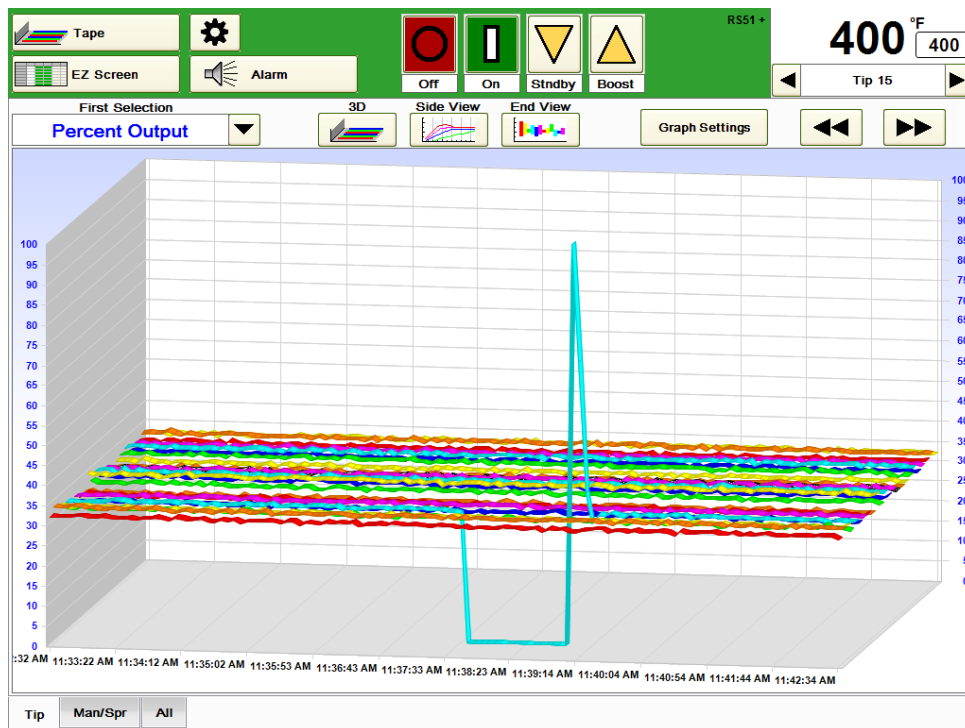

Figure 7i **Tape Graph – 3D**
Tape Graph: Each zone's data is displayed as a colored ribbon showing changes over a period of time as shown in Figures 6i, 6j and 6k. This display can be useful in showing how different zones compare over time. Only one variable is plotted at a time. The choices include Actual Temperature, Deviation (from setpoint), Percent Output, Heater Current (amperage), Heater Voltage, Heater Resistance, Temperature Setpoint and Manual % Output Setpoint. In Figure 7i, 6j and 6k, Percent Output is plotted. To select a particular zone, choose it in the upper right corner of the screen. The selected zone's data will be displayed as the black bar on the graph (Tip 15 in Figures 6i, 6j and 6k).
- 3D – shown in Figure 7i